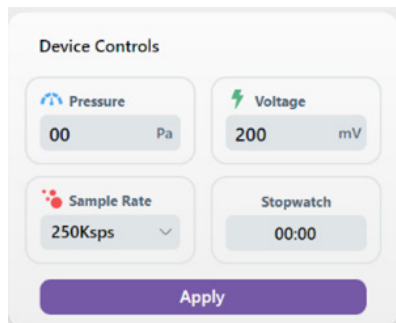

Figure 11. Device Controls panel.
System components, including the APS and LNA, are controlled through the Device Controls panel in the PCS (Figure 11).
1. In the PCS, apply a 100 mV voltage in the Voltage field of the Device Controls panel (Figure 11).
2. Check the Sample Rate is set to 250 ksps (Figure 11).